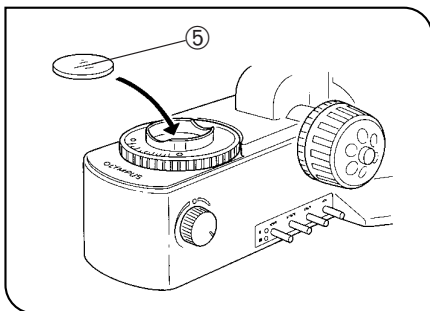

Fig. 6
**Mounting a Single Filter (Fig. 6)**